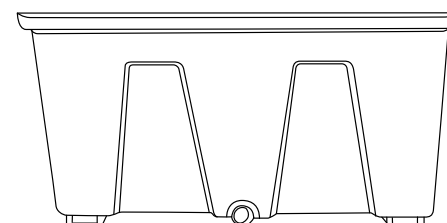

Figure 2
- The drainage outlet is located at the bottom of the ice box, as shown in Figure 2.